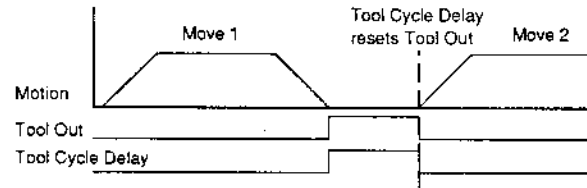

Figure 4-6. Batch Execution Mode 2
**Mode 2** If the Tool Cycle Delay is set greater than zero and the Tool In option is set to 0, Tool Out remains high (delaying the next move) until the Tool Cycle Delay has elapsed. It is then set low and the next move is started (see Figure 4-6).